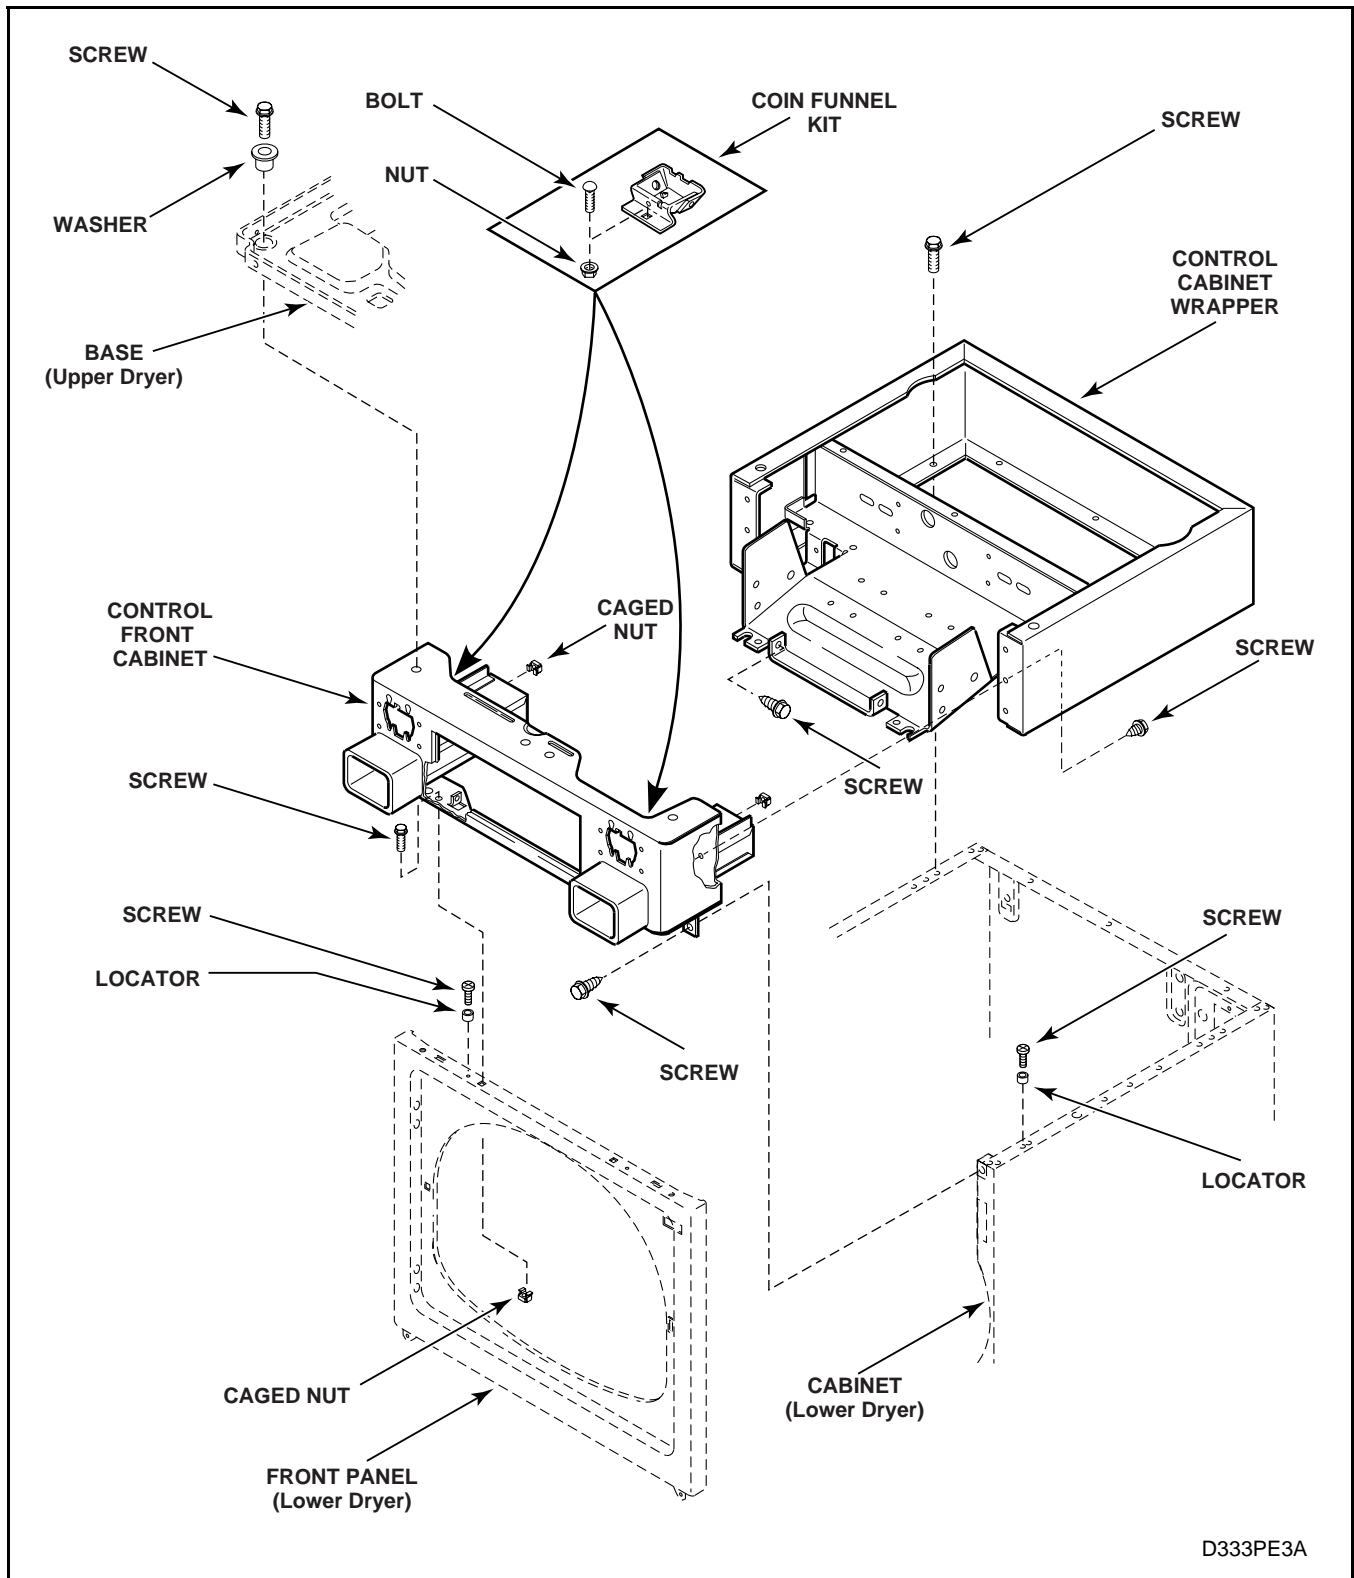

Figure 16
- h. Remove two screws holding bottom tabs on front panel to lower dryer cabinet. See *Figures 16 through 19*.
- k. Remove two screws holding bottom tabs on control cabinet to front flange of lower dryer cabinet. See *Figures 16 through 19*.
- l. Remove two screws and shoulder washers holding the upper dryer base to the top side of the control cabinet. See *Figures 16 through 19*.
- m. Reach in through front opening of control cabinet and remove two screws (per side) holding the control cabinet front to the front flange of the control cabinet wrapper. See *Figures 16 through 19*.
- o. Reach through control panel opening and remove two screws holding the control cabinet wrapper tabs to the control cabinet front tabs. See *Figures 16 through 19*.
- p. Carefully pull control cabinet front straight out from between the upper and lower dryers. See *Figures 16 through 19*.